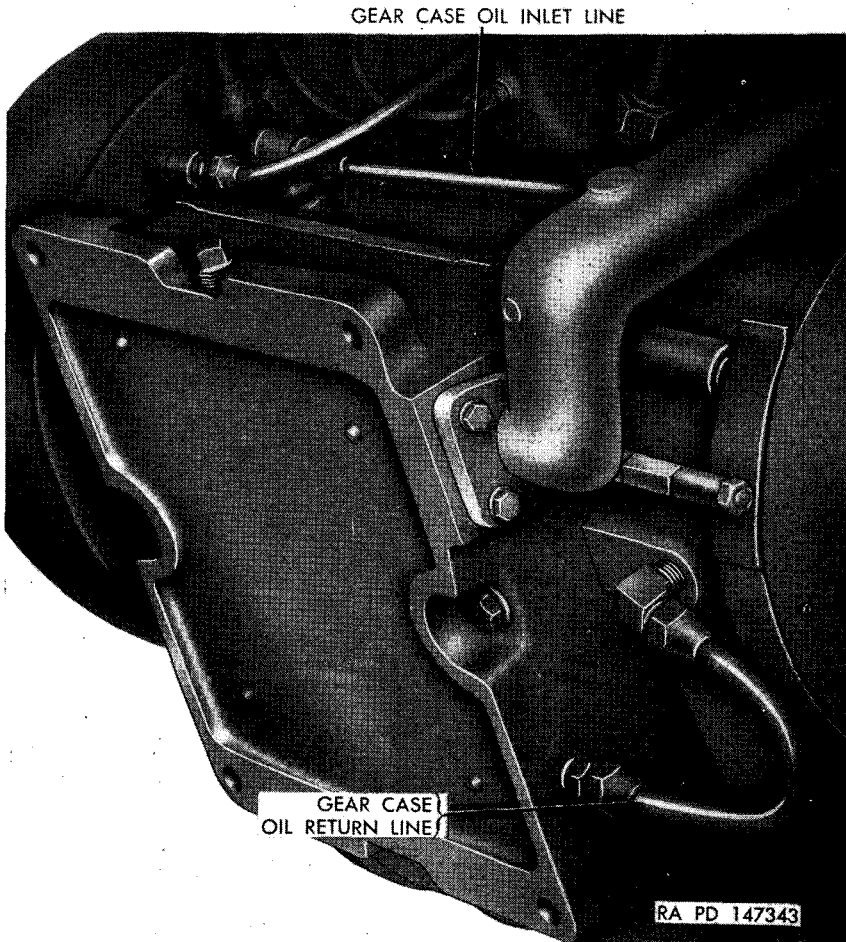

Figure 322. Auxiliary engine external oil lines.
a. **REMOVAL** (fig. 322). External oil lines are accessible only with auxiliary generator and engine removed from vehicle (par. 303b). Disconnect gear case oil inlet line from top of gear case and right side
b. **INSTALLATION** (fig. 322). Connect one end of oil return line to bottom of gear case and opposite end of engine oil pan. Connect one end of oil inlet to top of gear case and opposite end of crankcase.